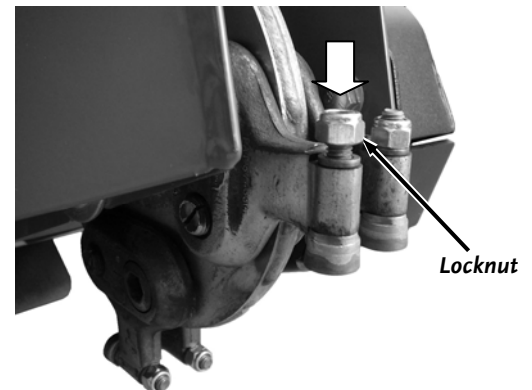

Figure 22
3. Lightly tap on the top of the Locknut with a Dead-blow Hammer so the Tooth will drop down away from the Tooth Mount (**Figure 22**).